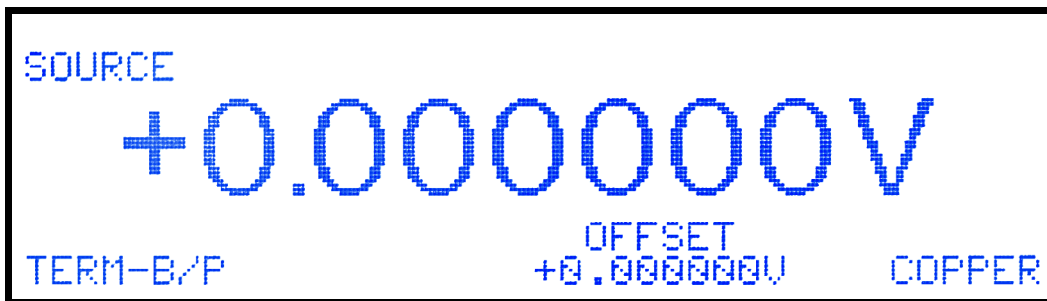

Figure 9-1: Initial Operating Screen for Voltage Tests
4. The operating screen should be as shown in Figure 9-1.